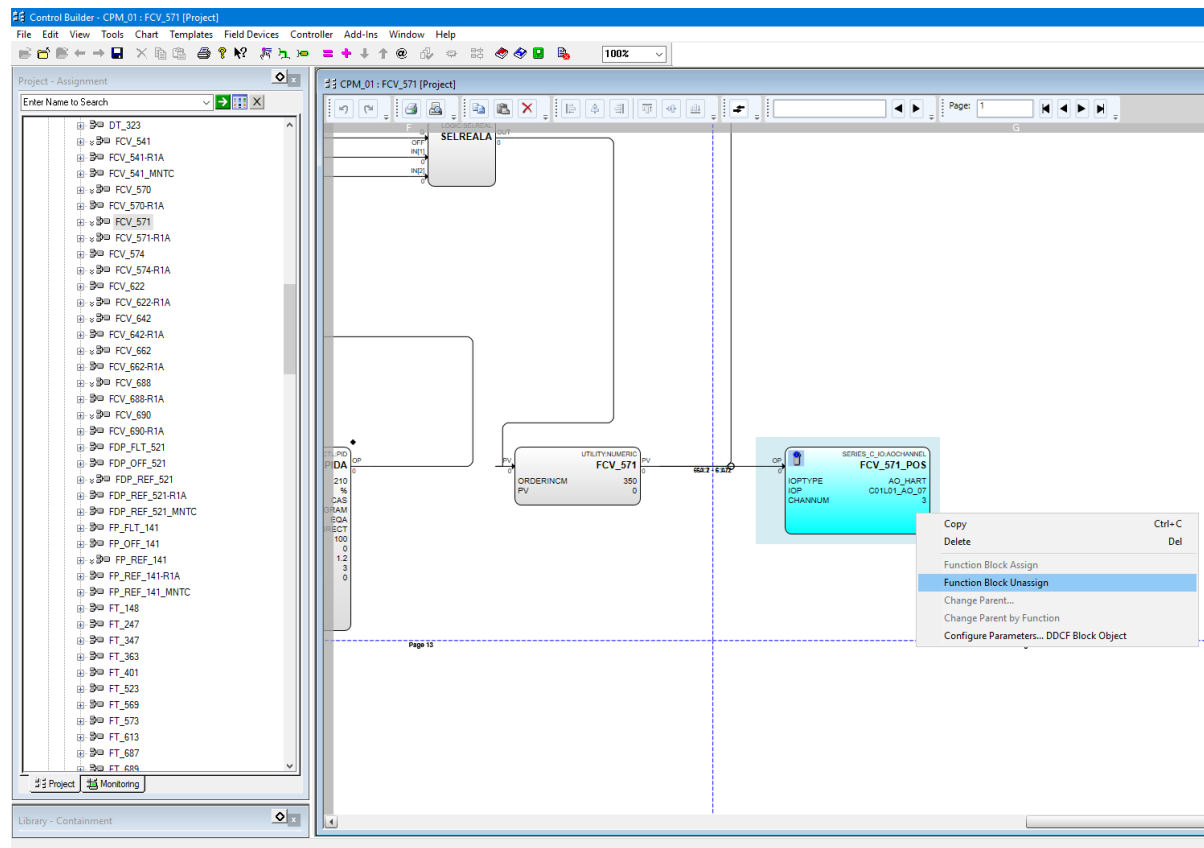

Figure 11: Unassigning analog output channel (Step 3).
3. Select 'Function Block Unassign' from the drop-down menu (Figure 11).